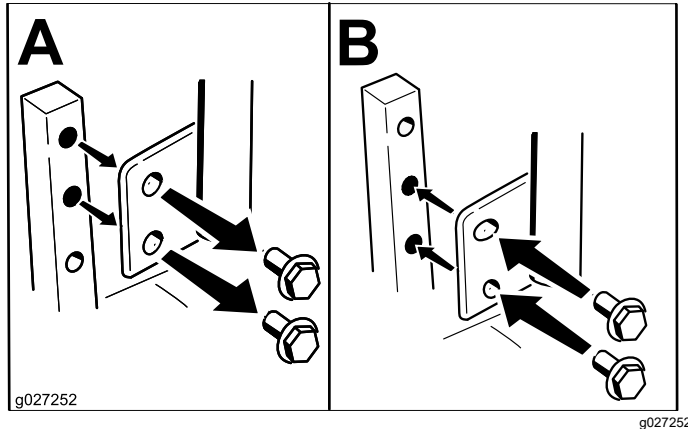

Figure 13
You can adjust the motion-control levers higher or lower for maximum comfort (Figure 13).
2. Loosen the lower bolt just enough to pivot the control lever forward or rearward (Figure 13).